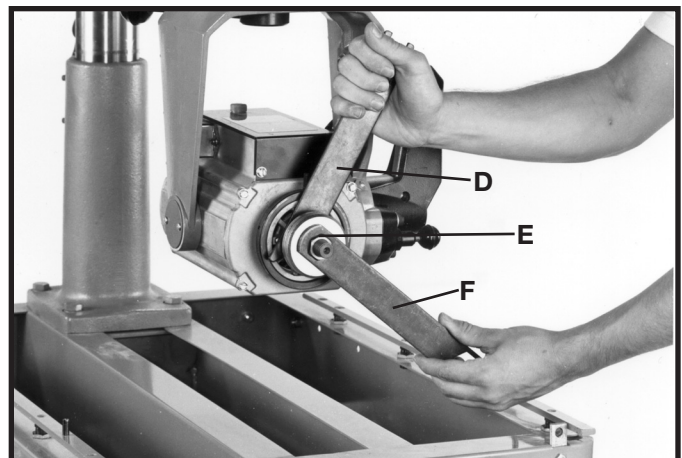

Fig. 18
2. Place wrench (D) Fig. 18, on flats of arbor and loosen arbor nut (E) using wrench (F).